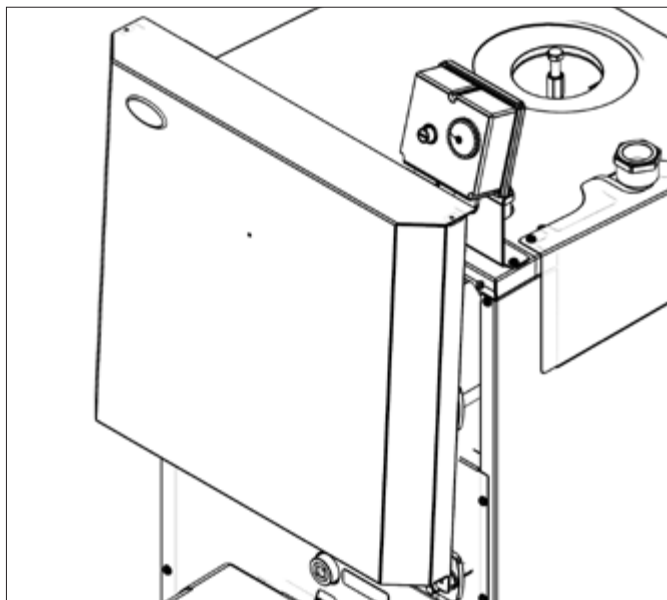

Figure 10-2: Removing upper front panel (15-26 model shown)
2. Lift the upper front panel up and off the boiler. Refer to Figure 10-2.